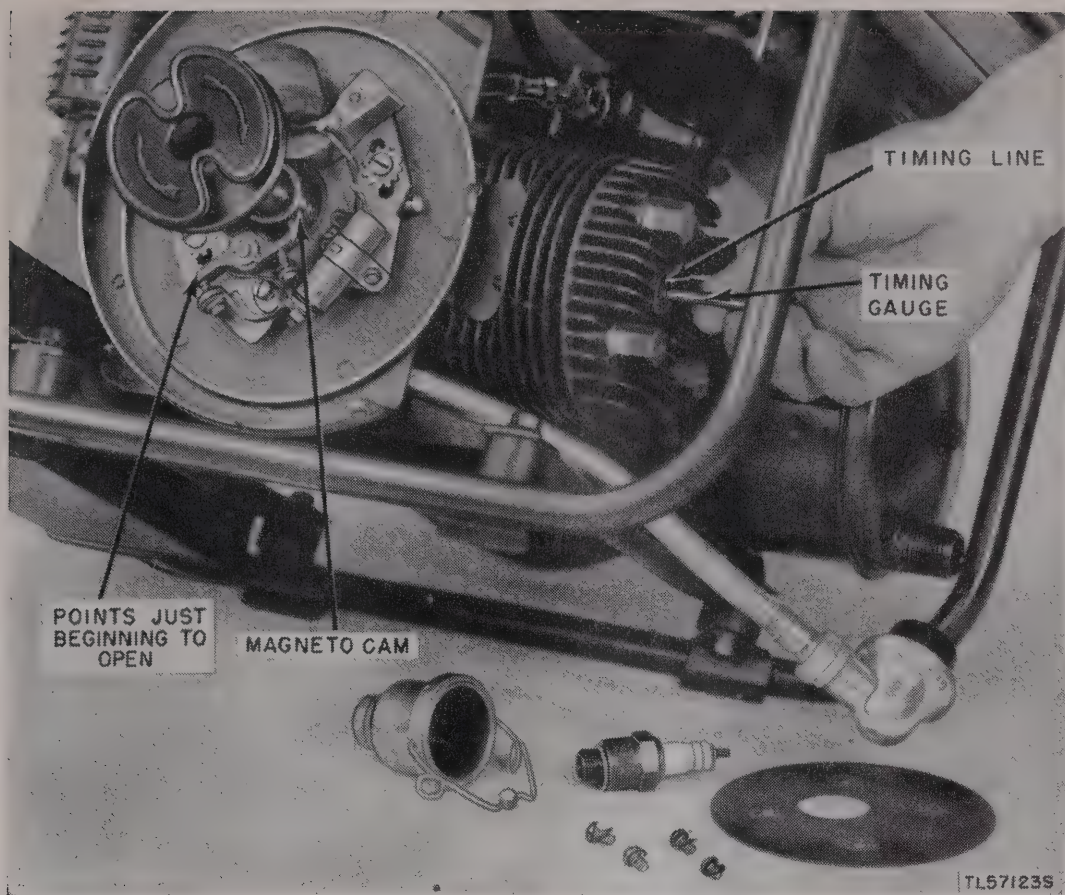

Figure 33. Timing the magneto.
- (3) Install a new breaker plate assembly, attaching the leaf spring and primary-lead wire to capacitor. Before installing the new breaker arm, form a horizontal loop in the breaker arm wire and position it between the head of the ground screw and breaker-arm mounting stud (fig. 33). When forming this loop, that part of the lead that protrudes from the lower end of the hole in the arm should be bent sharply to the right to prevent up-and-down movement. Follow these instructions carefully to avoid breakage of the lead.
- (4) Before installing the breaker arm, lubricate the breaker arm pivot as described in paragraph 38b(2).
- (5) After the breaker arm is in place, insert the flat washer, then the spring clip. Tighten the assembly with the screw.
- (6) Adjust the breaker point gap (*b* above).
- (7) Install the flywheel, magneto, flywheel housing, spark plug, and spark plug shield (par. 64).
- (4) Inspect the oil seal in the magneto back plate. If this seal is damaged or worn, press the seal out and replace.
- (5) Install the back plate (with ignition cable and shielding attached) on the engine crankcase with the two screws and lockwashers. Use a new gasket if the old gasket is defective. Reinstall the magneto cam brush.
- (6) Install the magneto assembly on the back plate with the two screws and lockwashers. Connect the ignition cable to the lead wire on the coil. Time the magneto in accordance with instructions in *e* below.
- (7) Install the flywheel, magneto-flywheel housing, spark plug, and spark plug shield.
e. MAGNETO TIMING (fig. 33). When installing a new magneto or replacing the breaker points, time the engine as follows:
- (1) Check the breaker-contact-point opening (*b* above).
- (2) Remove the spark-plug shield cap, spark plug, and spark-plug shield body and cylinder head baffle.
- (3) Turn the engine crankshaft in the direction of rotation until the piston reaches top dead center.
- (4) Insert the timing gauge furnished with the equipment (fig. 33) in the spark plug hole and cylinder head until it touches the top of the piston. If necessary, turn the engine slightly until the lower edge of recess on the gauge is flush with the top of the spark plug hole. Withdraw gauge.
- (5) Turn the engine against direction of rotation about  $\frac{1}{4}$  turn. Insert the gauge again through the spark plug hole until it touches the top of piston. Then turn the engine in direction of rotation until the *top edge* of recess in gauge is flush with top of the spark plug hole.
- (6) Loosen the stator plate screws and move the stator plate until the breaker points begin to break. Tighten the plate screws.
- (7) Recheck to determine if the *top edge* of the recess in the gauge is flush with the top of the spark plug hole when the magneto points begin to break. If setting is exactly as described, the timing is then set so a spark occurs when the piston is  $\frac{1}{8}$  inch from the top dead center.